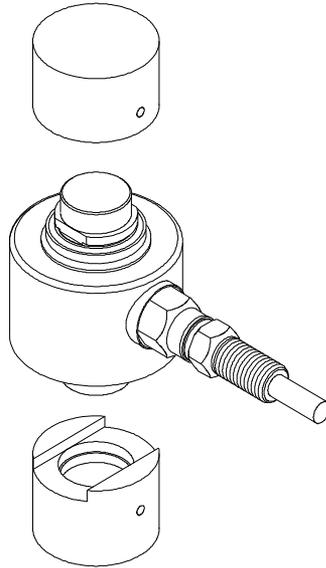

FIG. 14: PLACING THE LOADING CUPS ON THE LOAD SENSOR
- Step 4. Remove the load sensor from the packaging and place the Top and Bottom Loading cups on the Load Sensor. (See Fig. 14) Make sure that the load sensor is completely seated into the bottom loading cup with the anti-rotation machined flats and aligned properly. (See Fig. 14)
Step 5. Make sure the conduit adapter is at a right angle to the slot in the bottom load sensor cup (See Fig. 14). Always install the load sensor with the lid end (concave) facing down. (See Fig. 14)